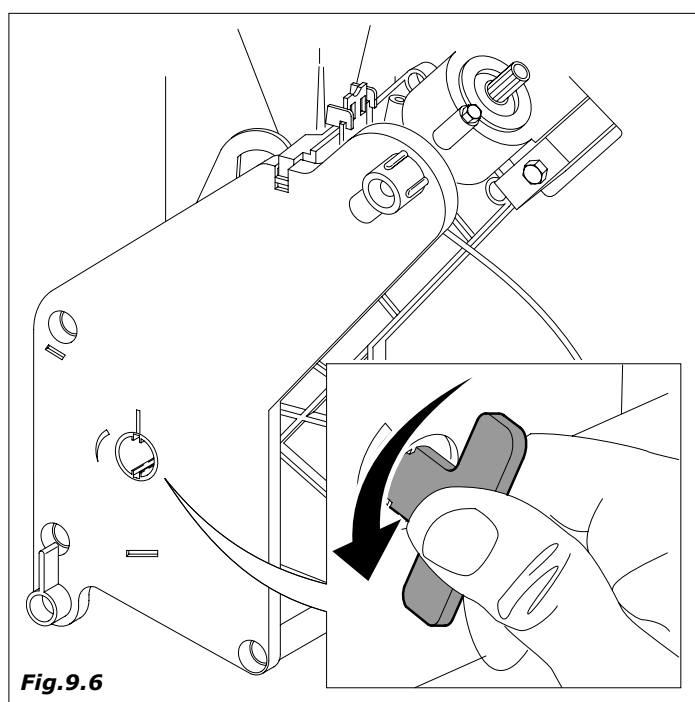

Fig. 9.6
- remove all coffee powder residue; the unit can be removed from its housing to make the task easier (Fig. 9.6)